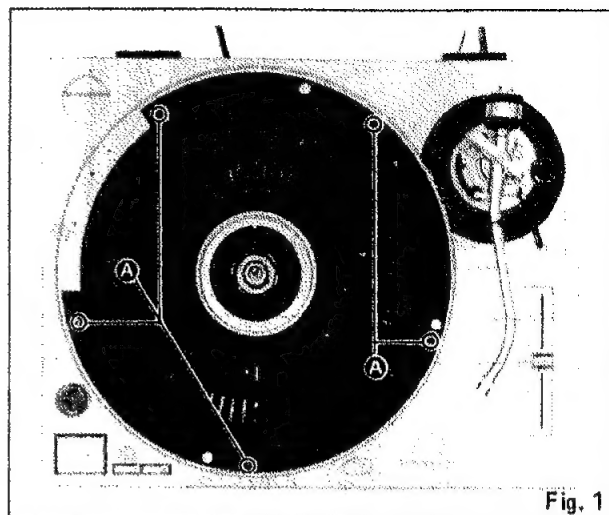

Fig. 1
3. Remove 5 screws **A** of the panel cover as shown in Fig. 1.